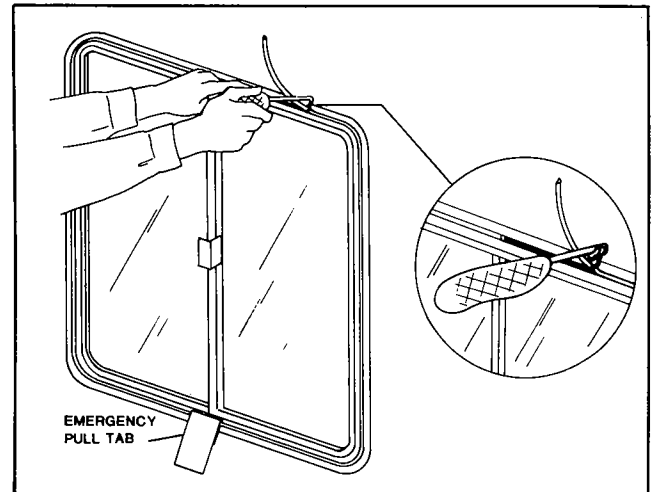

Figure 47. Rubber Key Installation
1. Starting at top center of emergency window insert end of rubber key in groove using rubber key installation tool. When bottom center of window is reached, slide red pull tag on and finish installing key. The ends should meet at the top (figure 47).